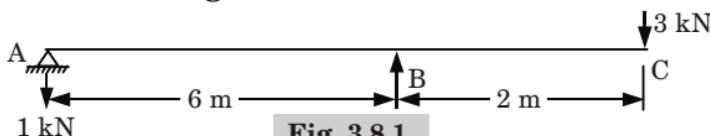

Fig. 3.8.1.
**Que 3.8.** Determine the vertical deflection at the free end and rotation at *A* in the overhanging beam shown in Fig. 3.8.1. Assume constant *EI*. Use Castiglano's method.